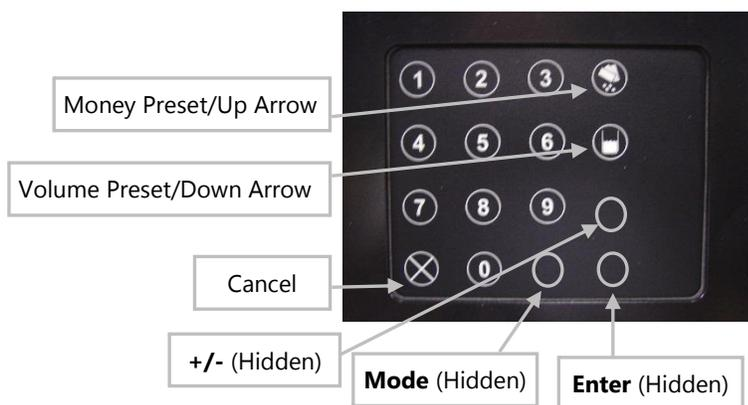

Figure 9.4 – Local Preset Keypad
4. To disable Menu Code 9, press the **↑** button on the keypad and press the **Enter** button as shown in *Figure 9.3* and *Figure 9.4*. The volume display returns to three dashes.